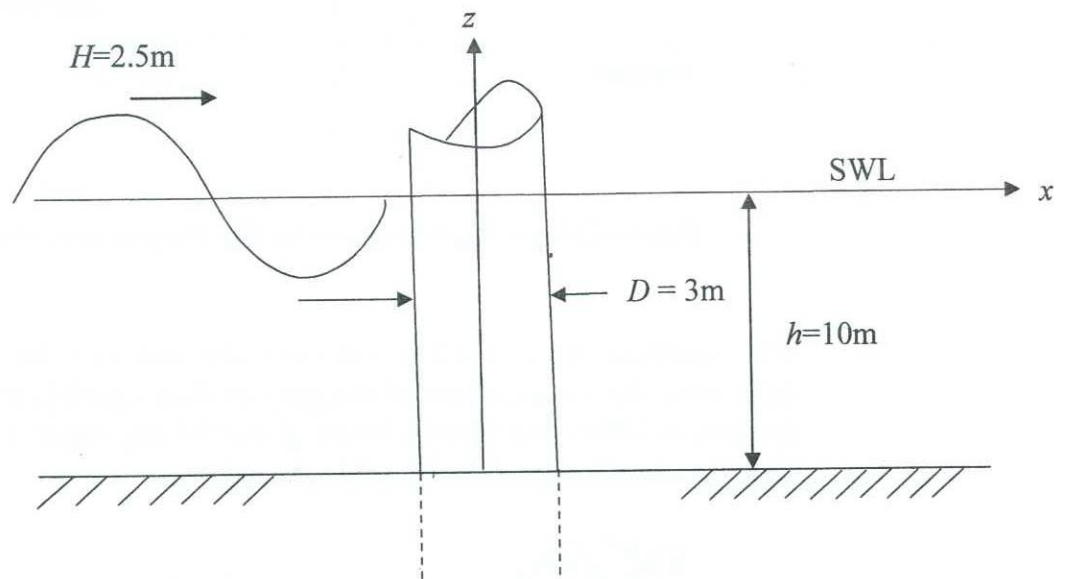

Figure Q3. Mono-pile
- (c) A cylindrical mono-pile with diameter $D=3\text{m}$ is to be driven into a sandy seabed in water depth $h=10\text{m}$ to construct a jetty exposed to waves. The design wave height, $H=2.5\text{m}$ and wave period is $T=8 \text{ sec}$. See Figure Q3 and use Wave Table given in the Appendix.